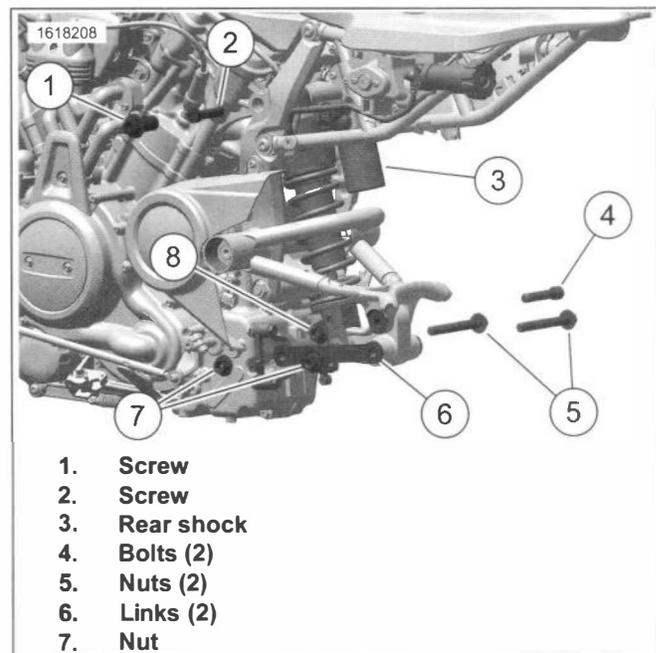
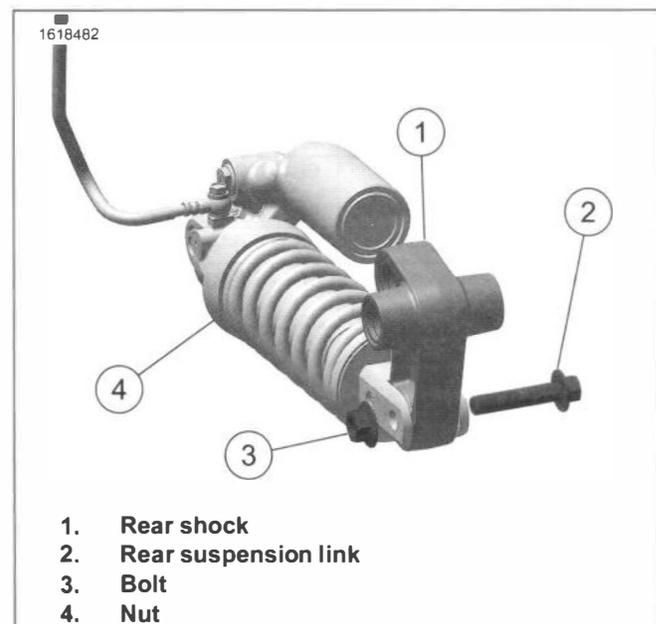

Figure 3-72. Remove Rear Shock Assembly
Figure 3-73. Rear Shock
2. See Figure 3-72. Remove shock assembly.
- a. Remove screw (1).
- b. Remove upper shock screw (2).
- c. Loosen mount block nut (7).
- d. Remove nuts (5) and bolts (4).
- e. Lower links (6).
- f. Remove shock assembly (3).
3. See Figure 3-73. Remove shock.
- a. Remove nut (4).
- b. Remove bolt (3).
- c. Remove shock (1) from rear suspension link (2).
1. See Figure 3-73. Install rear suspension link.
- a. Position rear suspension link (2).
- b. Install bolt (3) and nut (4). Tighten.
2. See Figure 3-72. Install rear shock assembly.
- a. Position rear shock assembly (3).
- b. Install upper shock screw (2). Tighten.